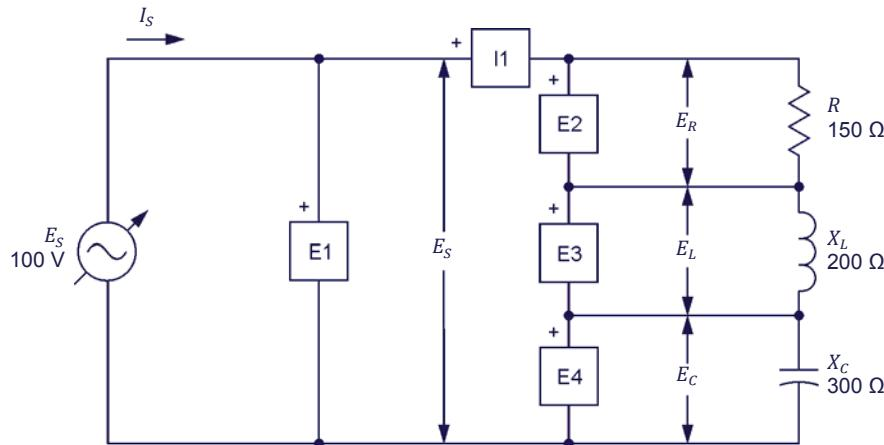

Figure 4-6. Series ac circuit containing a resistor, an inductor, and a capacitor, and set up for circuit analysis.
- 13.** Set up the circuit shown in Figure 4-6.
- 14.** Resolve the entire circuit shown in Figure 4-6 using the impedance calculation method.